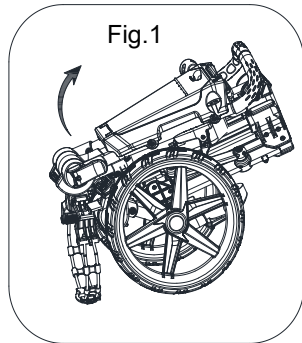
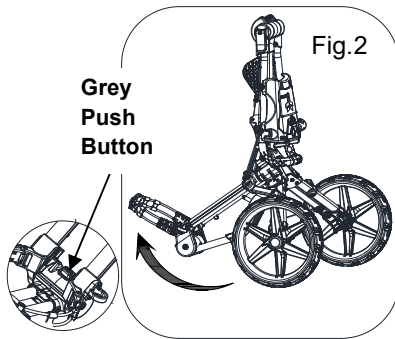
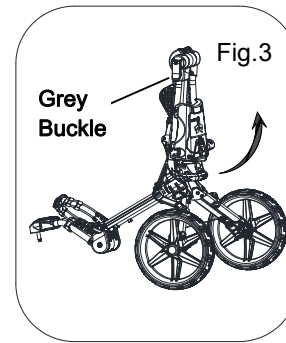
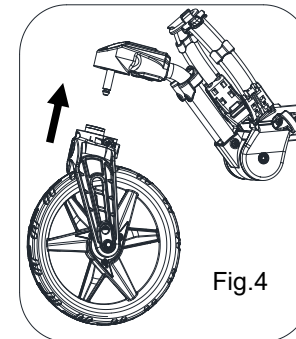

Fig.1
Fig.2
Fig.3
Fig.4
Lift up the adjustable handle mechanism and extend the buggy all the way as per Fig. 1. Then with one hand, tilt the buggy backwards and push the grey button to rotate the front fork (where the front wheel will soon be - refer Fig. 4.) clockwise as Fig. 2.
Unlock the grey buckle, and lift up the handle to adjust to the desired position, then re-lock the grey buckle. The buggy is now fully extended as shown in Fig. 3. Insert the front wheel onto the front fork as shown in Fig.4.
1. Simply attach the umbrella holder onto the buggy. The two large triangle bolts can be used to adjust the angle of the umbrella holder as Fig. 1 2.